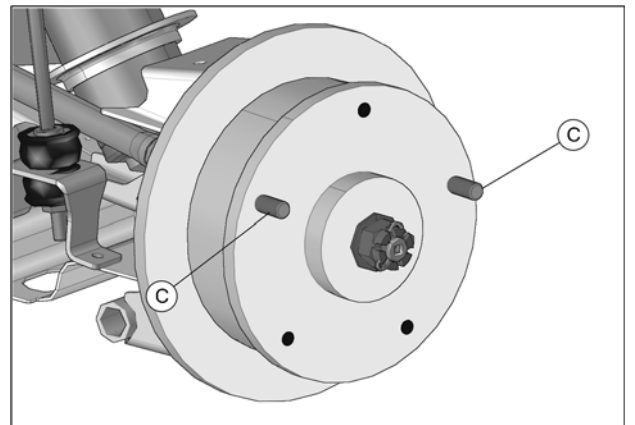
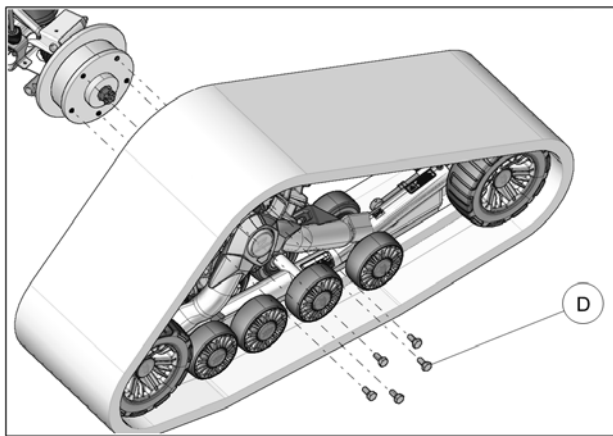

Fig. 9
Fig. 10
**CAUTION: Screw the supplied threaded studs (C) in the hub to help position the System on it. See Fig. 9**
- Secure the undercarriage to the rear hub using the provided wheel bolts (D). To install the Track System, screw the two threaded studs (C) provided at the 10 and 2 o'clock positions on the hub. Slide the undercarriage on the studs, and bolt it to the hub with three wheel bolts. Remove the studs and install the last two wheel bolts. See Fig. 9 and Fig. 10
16. Using the provided wheel bolts (**D**), secure undercarriages to front wheel hubs. The procedure and precautions are the same as for rear units. Refer to Fig. 9 and Fig. 10